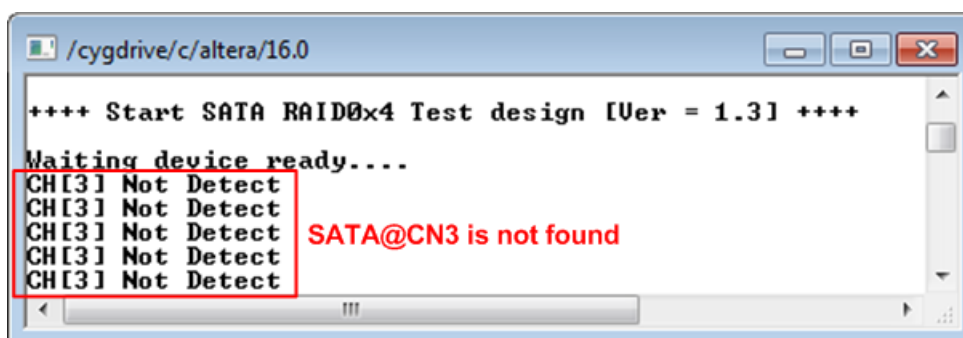

Figure 2-7 Error message when any devices are not detected
- 9) If any SATA devices are not detected, error message that “CHX Not Detect” will be displayed as shown in Figure 2-7. Please check SATA device in the error channel.